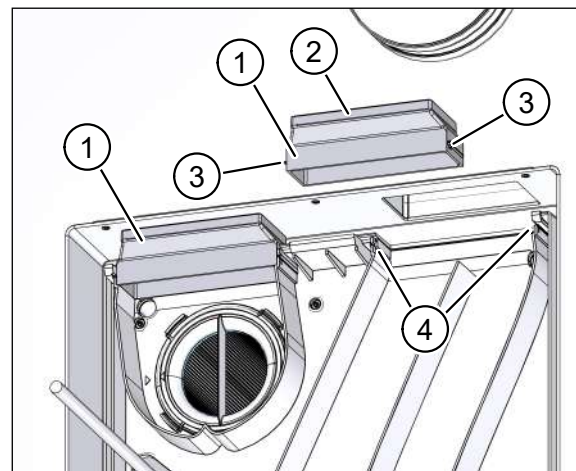
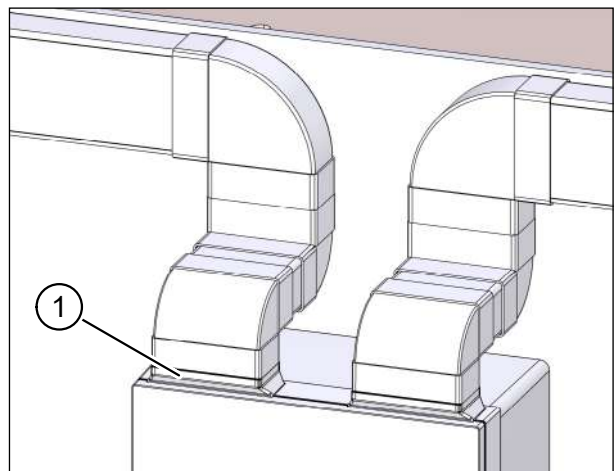

Fig. 46: Inserting duct adapters
Fig. 53: Connecting flat ducts to the ventilation unit
- ▶ Take the two duct adapters from the U2 adapter kit (item 1 in Fig. 46).
- ▶ Check that the seals (item 2 in Fig. 46) are seated correctly at the top of the duct adapters.
- ▶ Attach the two duct adapters so that the tabs (item 3 in Fig. 46) line up with the recesses (item 4 in Fig. 46) on the ventilation unit.
- ▶ Insert the duct adapters (item 1 in Fig. 53) into the ventilation unit (see description and Fig. 46 in section 11.6.4 on page 39).